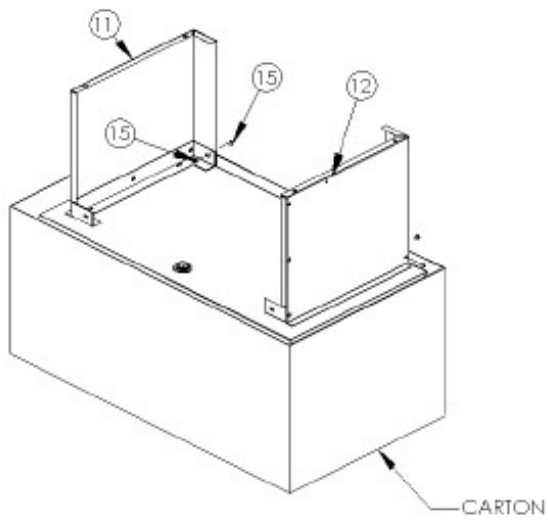

Figure 1
- Insert two bolts at the back of each base end to hold in place. Do not tighten at this time. See figure 1.